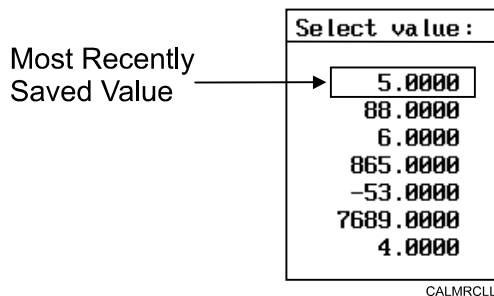

Figure 6-6, Math Calculator Select Value Pop-up Menu
2. Highlight the **Math Calculator** template and press **ENTER** to display the **Select value:** pop-up menu, with the most recently saved value displayed at the top of the list. Refer to **Figure 6-6**.